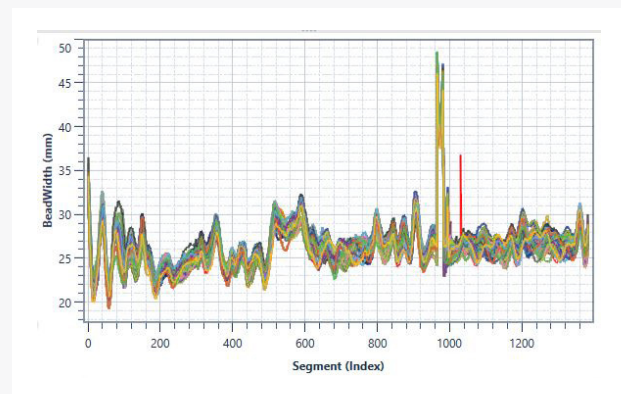

Figure 4: The above is an example of how the Sciometric system allows you to visualize bead width by region using digital process signatures.
- Bead width by region (Figure 4)